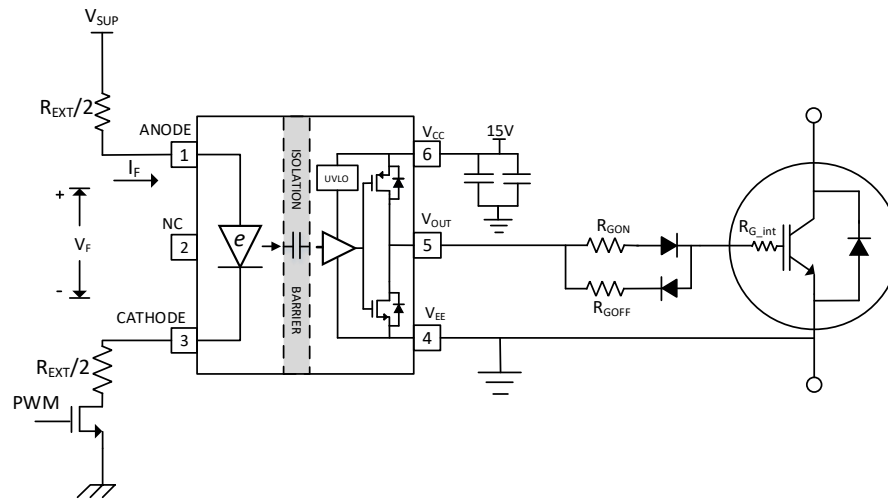
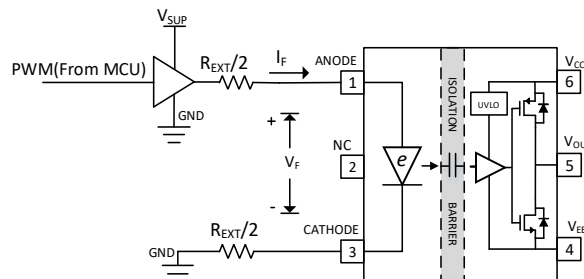
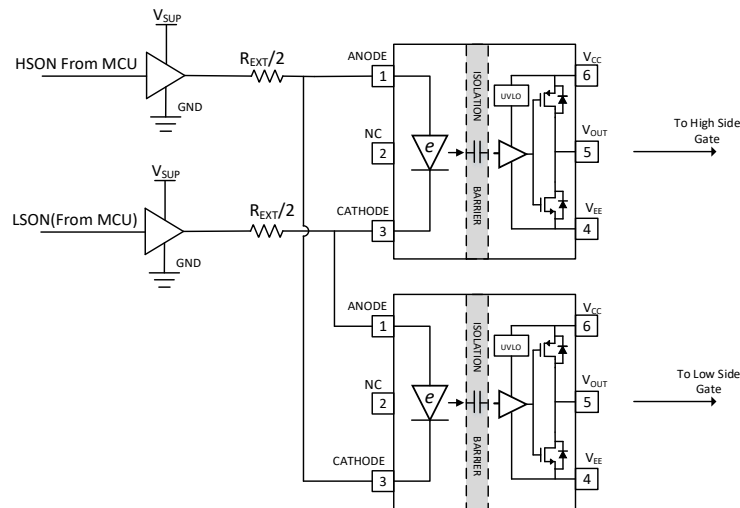

Figure 8.1 NSi6801 typical application circuit with NMOS driving input stage
Figure 8.2 NSi6801 typical application circuit with one buffer driving input stage
Figure 8.3 Interlock Protection using NSi6801
NSi6801 requires 7mA to 16mA bias current that flows into the e-diode for normal operation. The PWM from MCU is not suitable to provide such current directly and external circuit is needed. In Figure 8.1, one NMOS is used with split input resistors. Another input drive method is using one buffer, as shown in Figure 8.2. The details to calculate input drive parameters are in Chapter 8.3.
The recommended forward current range for NSi6801 is 7mA to 16mA. The value of input resistor, buffer supply voltage and buffer internal resistance influence the forward current, as shown in Equation (1). In Figure 8.1,  $R_{Buffer}$  is the on-resistance of the external NMOS. In Figure 8.2,  $R_{Buffer}$  is the buffer output impedance in output “High” state. In Figure 8.3,  $R_{Buffer}$  is the summary of buffer output impedance in “High” and “Low” state.